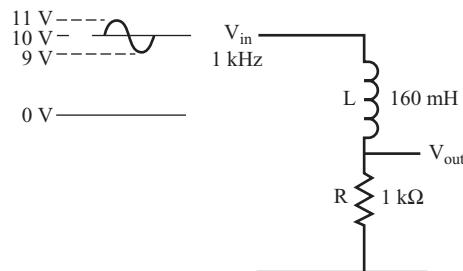
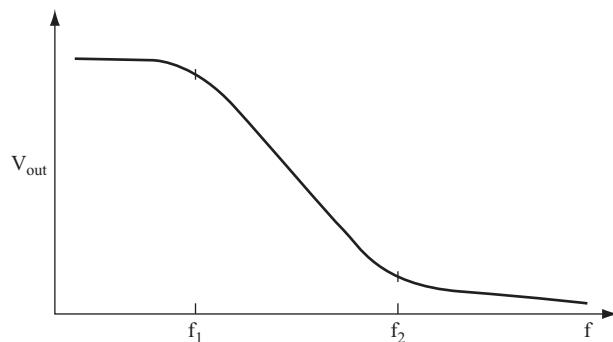

FIGURE 6.42
FIGURE 6.48
- 30** Find the output voltage for the circuit shown in Figure 6.42.
32 To calculate V_{out} , in problems 30 and 31, you also had to calculate X_L . However, because X_L changes with the frequency of the input signal, the impedance and the amplitude of V_{out} also change with the frequency of the input signal. If you plot the output voltage V_{out} against frequency, you should see the curve shown in Figure 6.48.
The curve in Figure 6.48 shows that using an inductor and resistor in a circuit such as the one shown in Figure 6.42 produces a low-pass filter similar to the one discussed in problems 15 through 19.